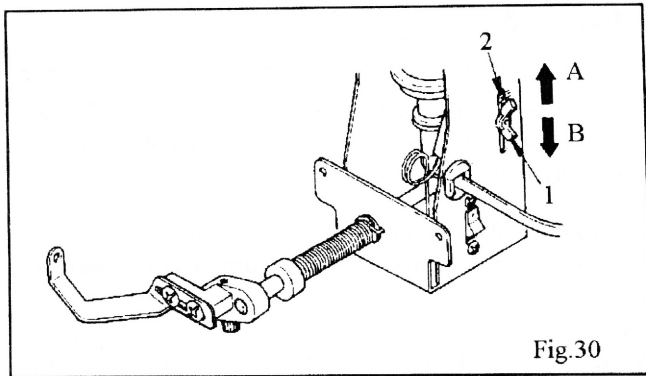

Fig.30
To adjust the slackness of the needle thread, loosen wing bolt (1) and slide it up or down, as required, using the indicator (2) and graduation as a yardstick as shown in Fig. 30.
When slack needle thread regulator function is not required, turn off switch (3) shown in Fig. 30.